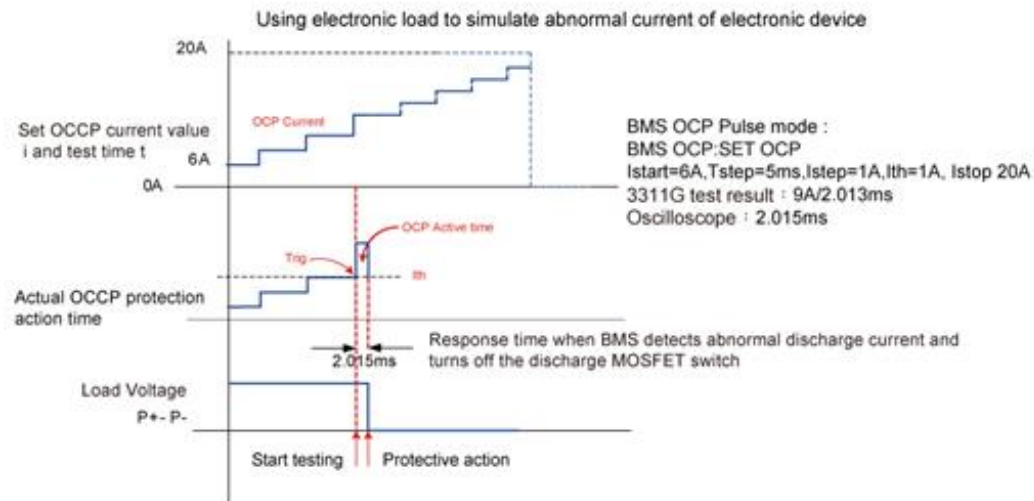
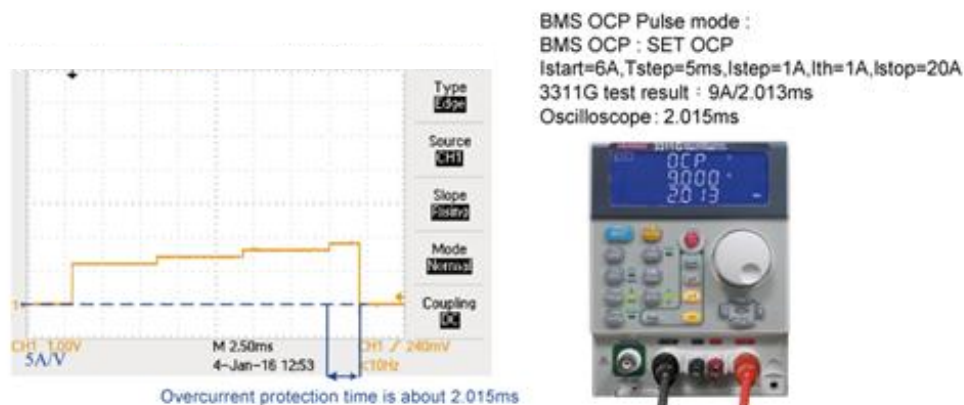

Figure 2.8 3311F BMS overcharge flow test program diagram (continuous STEP pulse)
Figure 2.9 3311G BMS Overcharge flow Test Results (Continuous STEP Pulse)
**2.3.2** The overcurrent protection test mode of continuous STEP pulse is similar to the single pulse mode. In addition to the initial current setting, the continuous STEP pulse mode increases the time of each STEP, the current increased by each STEP and the current value of the final STEP. Figure 2.8 is the 3311G single pulse current BMS overcharge current test program diagram. Figure 2.9 is the actual test result, the left picture is the oscilloscope current waveform diagram when BMS overcharge current protection, the right picture is the actual test overcharge current value of 3311G BMS and Protect the reaction time.